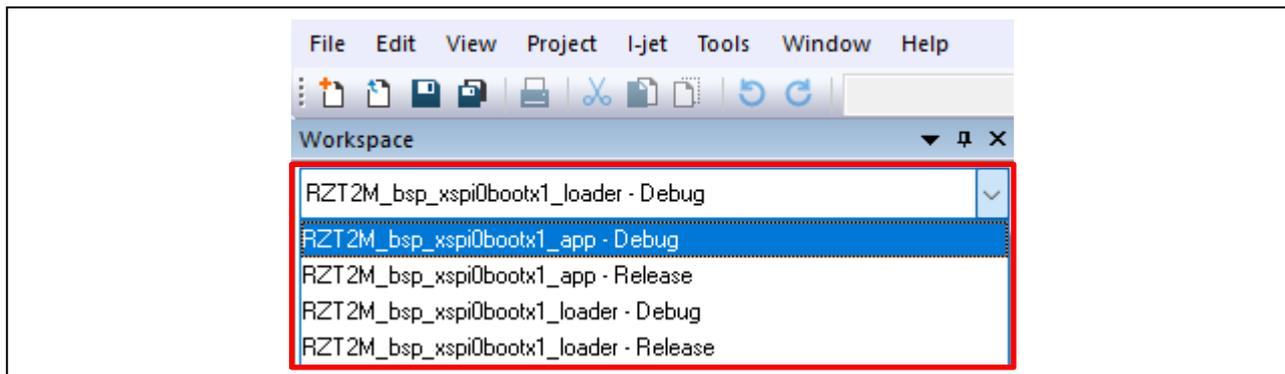

Figure 5-1 Project selection
2. Select "RZT2M\_bsp\_xspi0boot1\_app Debug" project in Workspace box as Figure 5-1.